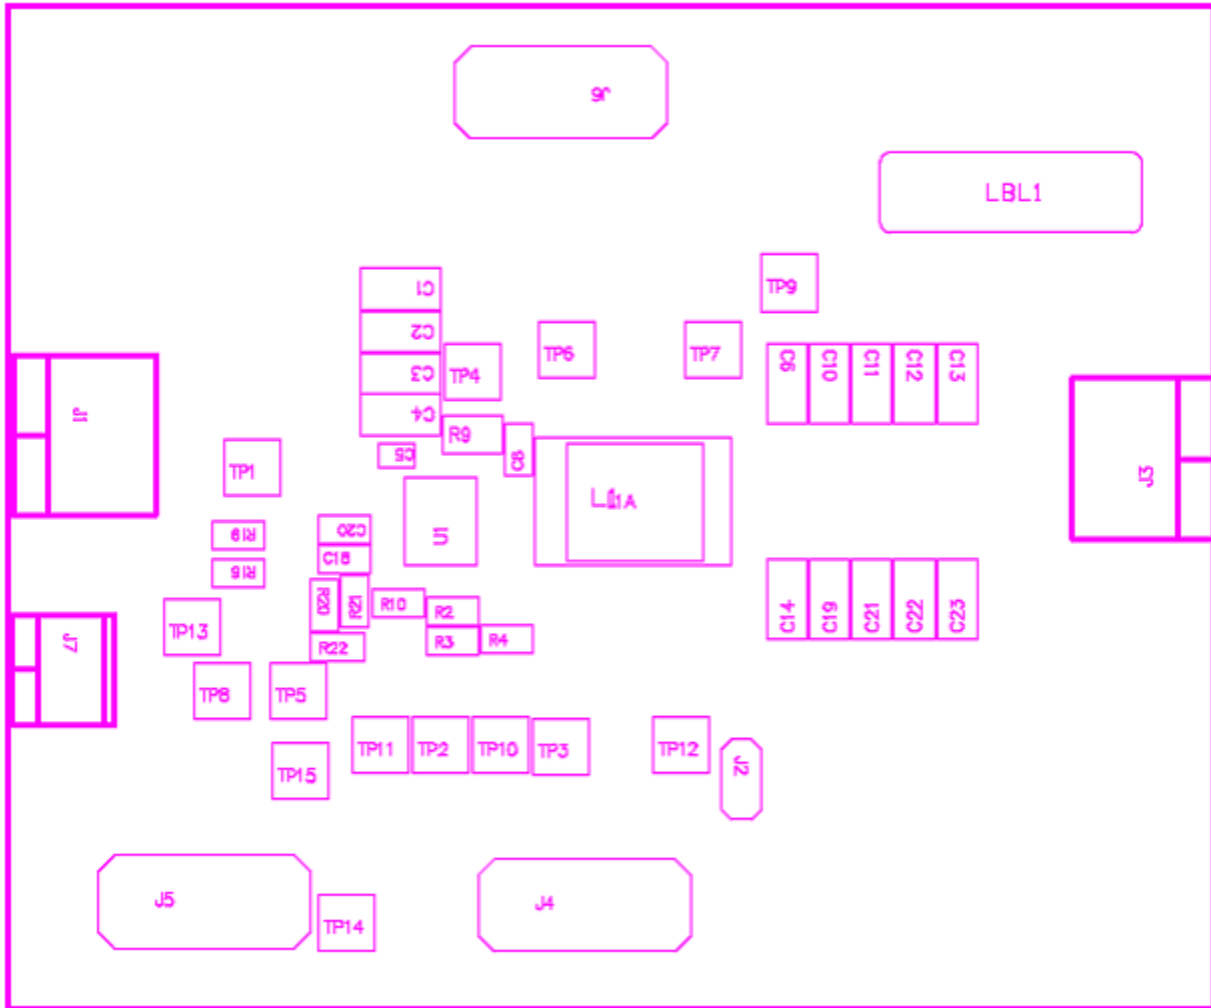

Figure 5-2. TPS53513EVM-587 Top Layer for Test Setup
Voltage Source: The input voltage source V_{IN} must be a 0-V to 14-V variable DC source capable of supplying 10 A_{DC} . Connect V_{IN} to J1 as shown in Figure 5-2.
1. Prior to connecting the DC input source (V_{IN}), it is advisable to limit the source current from V_{IN} to 10 A maximum. Make sure V_{IN} is initially set to 0 V and connected as shown in Figure 5-2.
1. Set up the EVM as described in Section 5 and Figure 5-2.